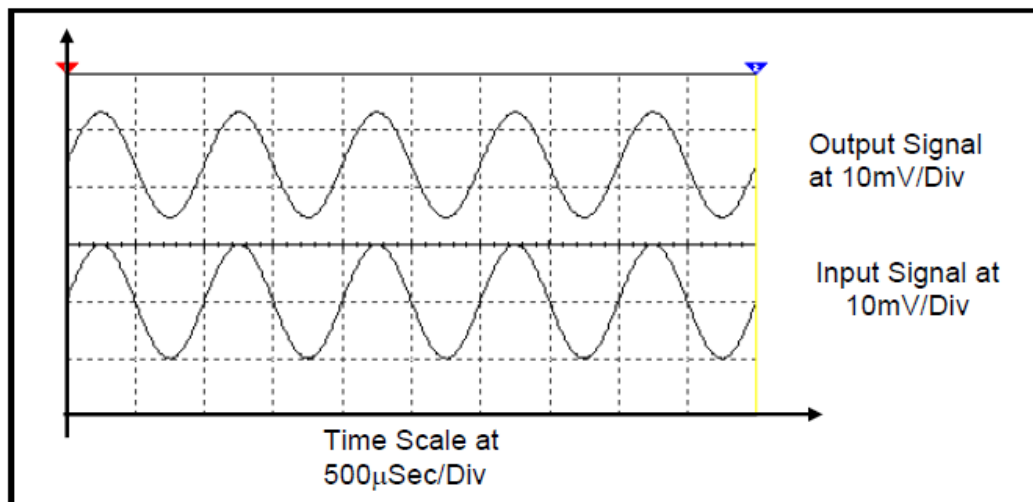

Fig.13 Input and output signals of CD amplifier
- Adjust the VOLT/DIV for Ch.A and Ch.B, hence adjust the TIME/DIV of the oscilloscope; Fig.13.